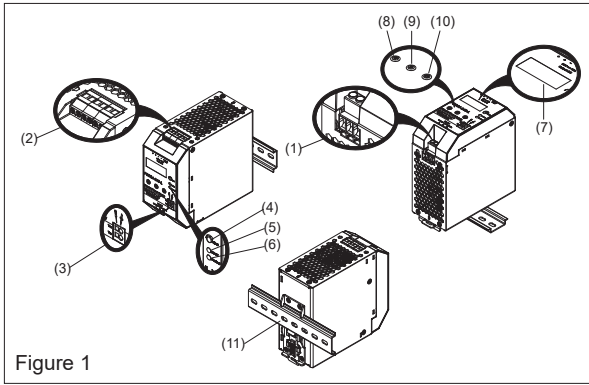

Figure 1
## 2. Device description (Fig. 1)
### 4.1. Input connection (Fig. 1, Fig. 6)
For AC input connections, use L, N and PE connections on the input terminal connector (see Fig. 1 (1)) to establish the 100-240 VAC connection. Fig. 6 shows the connection to the various network types.
### 4.2. Output Connection (Fig. 1 (2))
Use the "+" and "-" screw connections to establish the 24 VDC connection. The output provides 24 VDC. The output voltage can be adjusted from 24 to 28 VDC on the potentiometer. The green LED DC OK displays correct function of the output (Fig. 1 (5)). The device has a short circuit and overload protection and an overvoltage protection limited to 35 VDC.